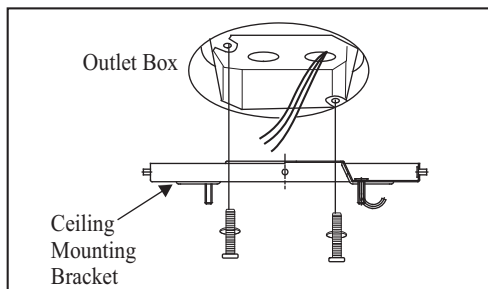

Figure 4
1. Attach the ceiling mounting bracket to the outlet box with two screws and washers provided with the outlet box. Make sure the bracket is tight and secured (Fig. 4).